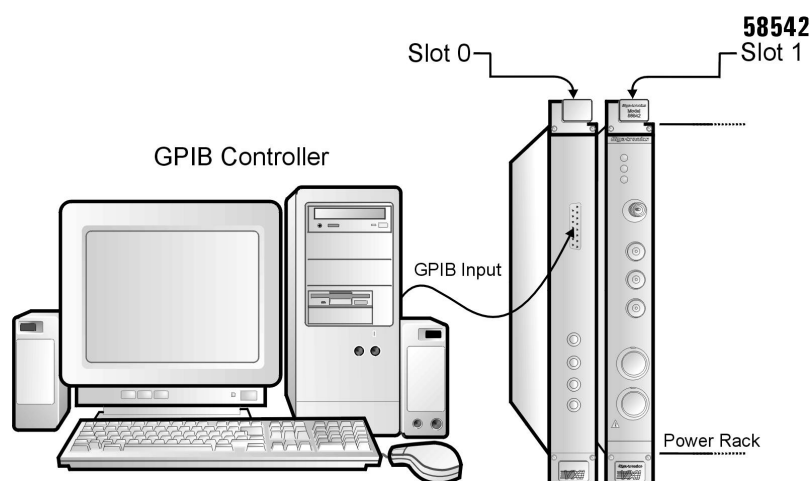

Figure 4-2: GPIB Port Test Setup
2. Connect the GPIB controller to the GPIB port of the SLOT 0 plug-in next to the power meter (See Figure 4-2).